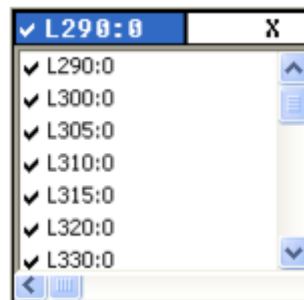

Figure 1.72. – Line option selecting
1. Move the cursor to the *Line Header Cell* in the top left corner of the spreadsheet. The currently displayed line in the worksheet is **L290:0**, fig. 1.72.